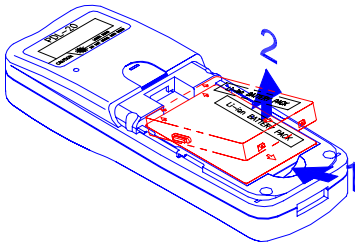

Fig 4
- c. Press the battery against the **PDL-20A** terminal, and lift it up and away from the compartment, as Fig 4 shows.
- a. Remove the battery from the battery compartment as shown in Fig 4.